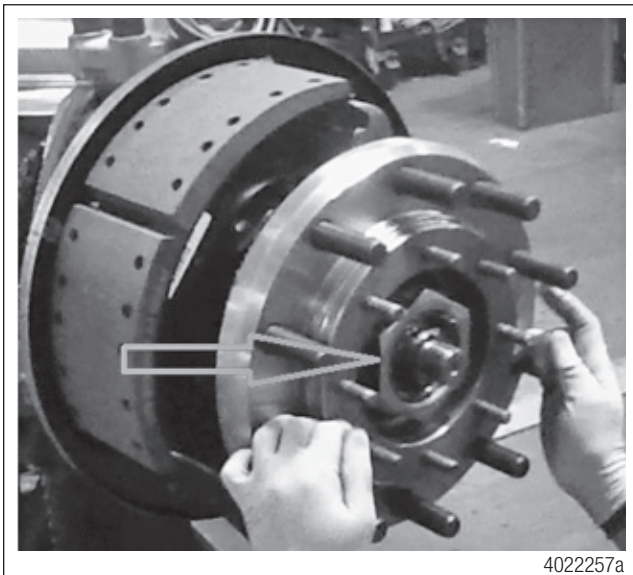

Figure 14
9. Remove the wheel bearing lock nut from the spindle. Figure 14.